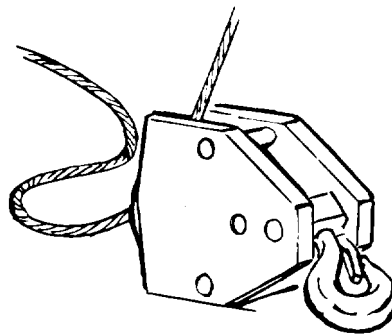
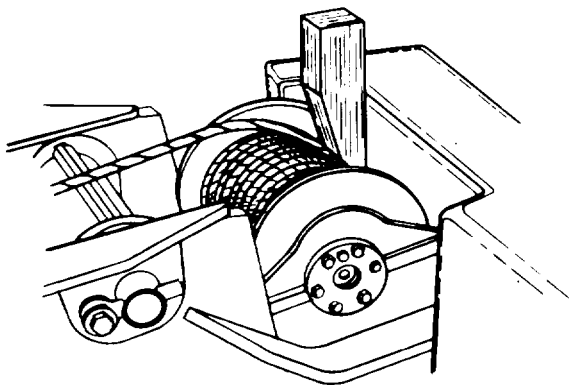

Figure 5-5. *Hook Block*
Figure 5-6. *Wedge Block in Winch Drum*
- Lower hook block to ground, positioning it on its side (Figure 5-5). Maintain tension on cable and continue to pay out 3 ft (914 mm) of cable. Insert wedge block between winch cable and winch brace at counterweight side (Figure 5-6).